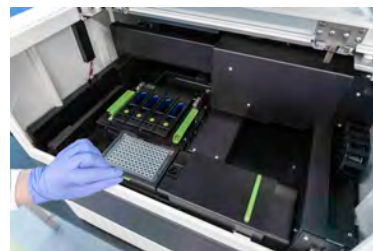

Figure 19: Fasten the clamp on the collection plate
3. Fasten the clamp (see Figure 19).